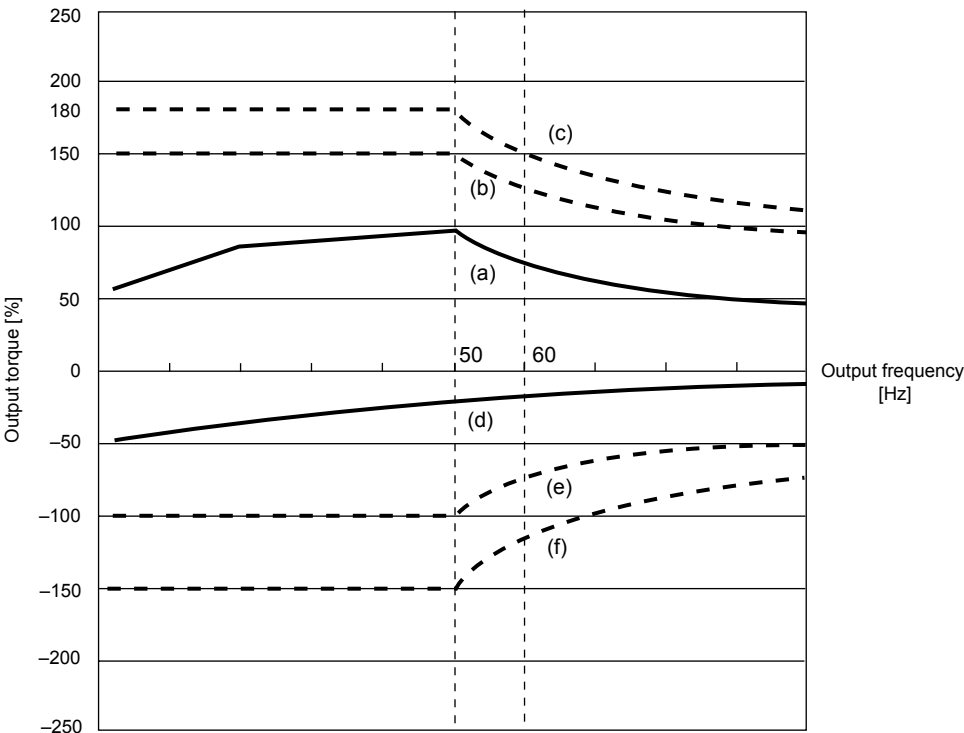

Fig. 4.1 Output torque characteristics (50Hz base)
Fig. 4.1 and 4.2 show the output torque characteristics individually according to 50Hz and 60Hz base for the rated output frequency.
(1) Continuous allowable driving torque**(Fig. 4.1 and 4.2, curve (a))**
(2) Maximum driving torque in a short time**(Fig. 4.1 and 4.2, curves (b) and (c))**
(3) Starting torque**(around speed 0 in Fig. 4.1 and 4.2)**
(4) Braking torque**(Fig. 4.1 and 4.2, curves (d), (e), and (f))**